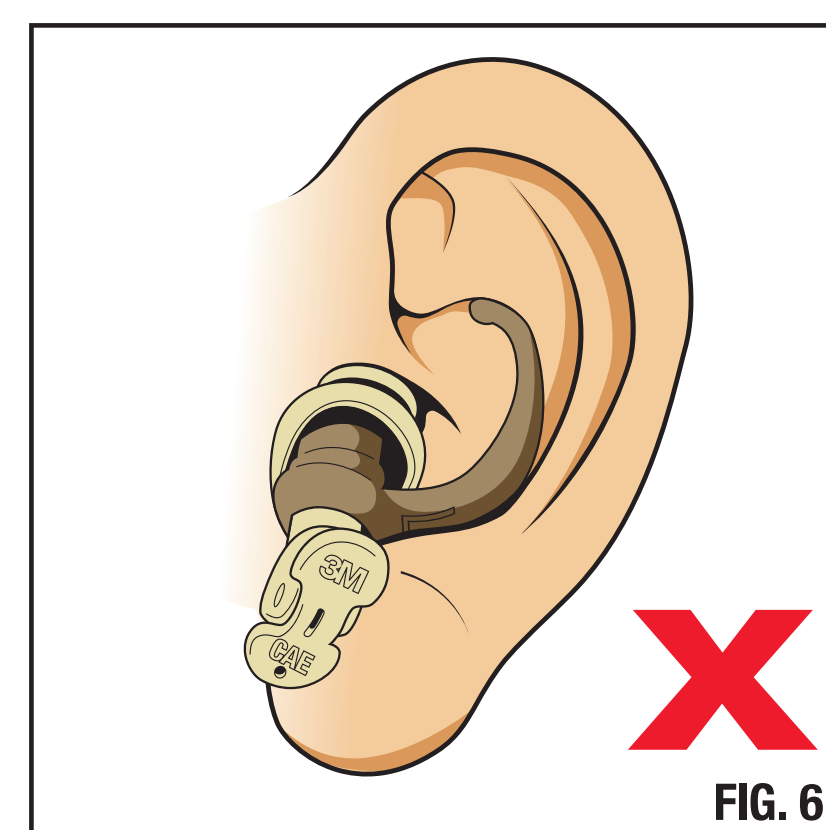

FIG. 6
**Step 5.** If the retainer or earplug doesn't fit properly (*see Fig. 6 & 7*) it can be removed and reinserted.